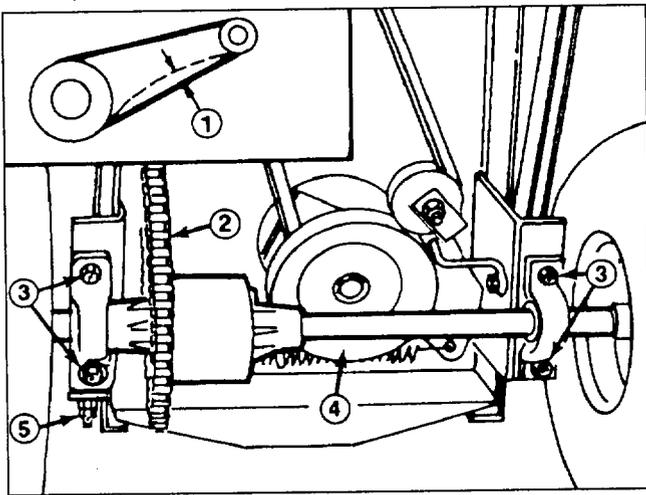

Figure 28
1. Check deflection of drive chain by lifting up on chain with moderate pressure at mid span (Fig. 28). There should be 1/8 of an inch (3 mm) deflection (Fig. 28). If deflection is not as specified, an adjustment is required — steps 2-13.
5. Shift transmission into 1st gear and engage the parking brake. Tip rider onto its rear end so chassis is on top of (2) 2 x 4, blocks. Wheels must be off the floor so axle can be moved.
6. Loosen four flange nuts securing pillow blocks w/ differential axle to the rider frame (Fig. 28).
7. Loosen rear jamnut on chain tensioner (Fig. 28).
10. Since differential axle must be parallel to rear of chassis, measure distance from center of pillow blocks to rear of chassis (Fig. 28). Difference between the two measurements must not exceed 1/4 inch (6 mm). If difference exceeds 1/4 inch (6 mm), differential axle is not parallel with chassis; therefore left side must be repositioned to attain desired dimension. Tighten locknuts securing left pillow block to rider frame.